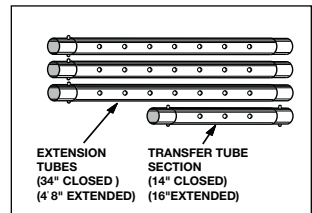

Figure 8
- A. Button to button, each Extension Tube Section extends a total of 4' 8", and the Transfer Tube Section extends 16", allowing the tubes to extend 23' 2" with the Auto-Lok fully extended. (See figure 8.)